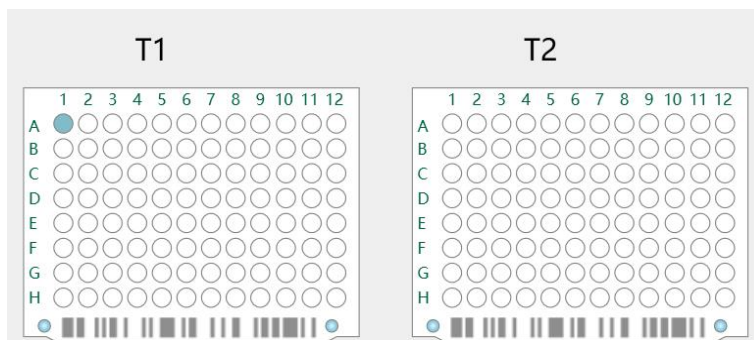

Figure 5.37 8 × 12 Target Plate
2) If target plate 8 × 12 is selected, Target Type: 8X12, the target plate will be changed into 8 × 12 plate, shown as figure 5.37: